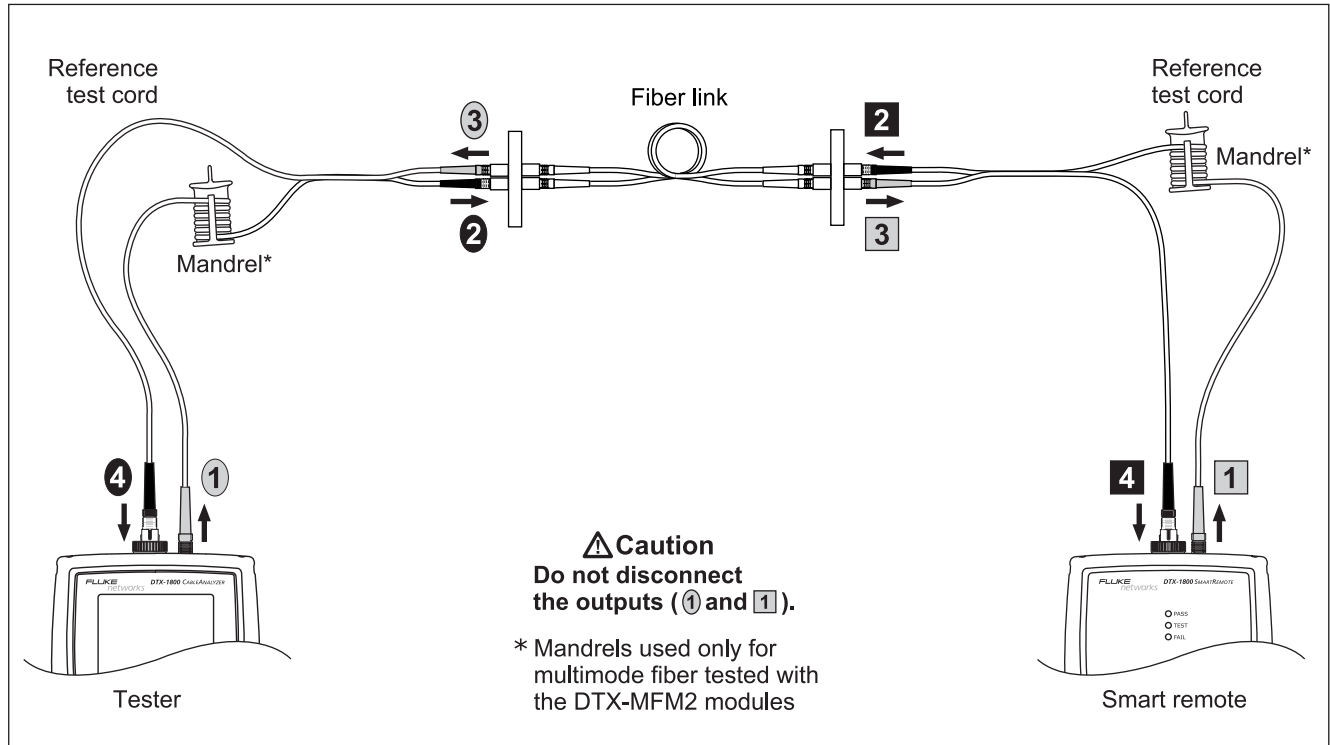

Figure 7-10. Smart Remote Mode Test Connections (Method B)
- 4 Connect the tester to the cabling. Figure 7-10 shows test connections for Method B.